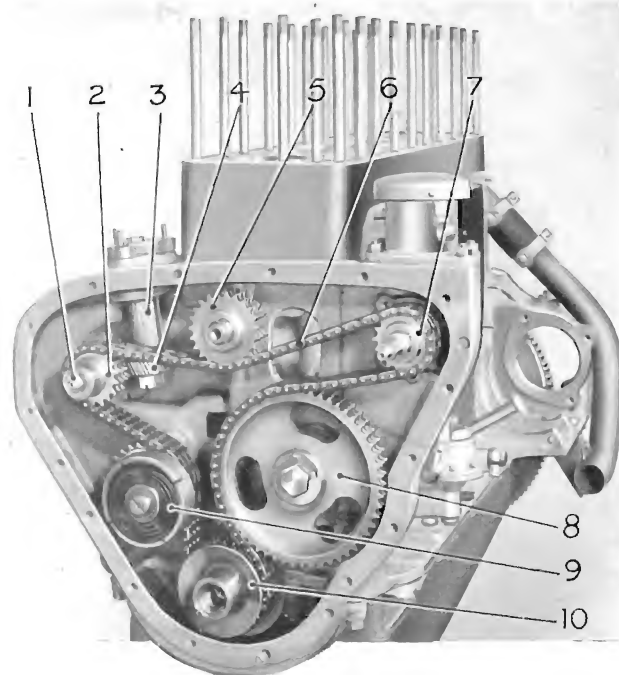

Fig. 18.
The timing gear is situated at the front of the engine, the camshaft and auxiliaries being driven by means of a triplex chain. The chain tension is kept constant by means of an automatic tensioner (9), Fig. 18, so that no adjustment is required throughout the useful life of the chain.
The crankshaft sprocket is keyed on the shaft and can be withdrawn, using an extractor. The sprocket (5), Fig. 18, runs on a pin located in the block by a peg and supported in the timing case cover. The dynamo sprocket (7) and ignition sprocket (2) are keyed on their shafts which run in ball bearings. The back bearing is pressed on the shaft against a shoulder, the sprocket is keyed and front bearing pressed on, the whole being locked by a nut and split pin. Oil flingers are fitted behind the back bearings and shims are fitted for chain alignment purposes.
The distributor drive consists of a spindle housed in a sleeve (3), Fig. 18, the skew gear (4) being secured by a nut and split pin. The other skew gear is carried on the sprocket shaft. When a magneto is fitted, the drive is taken from the same sprocket shaft through a vernier coupling.